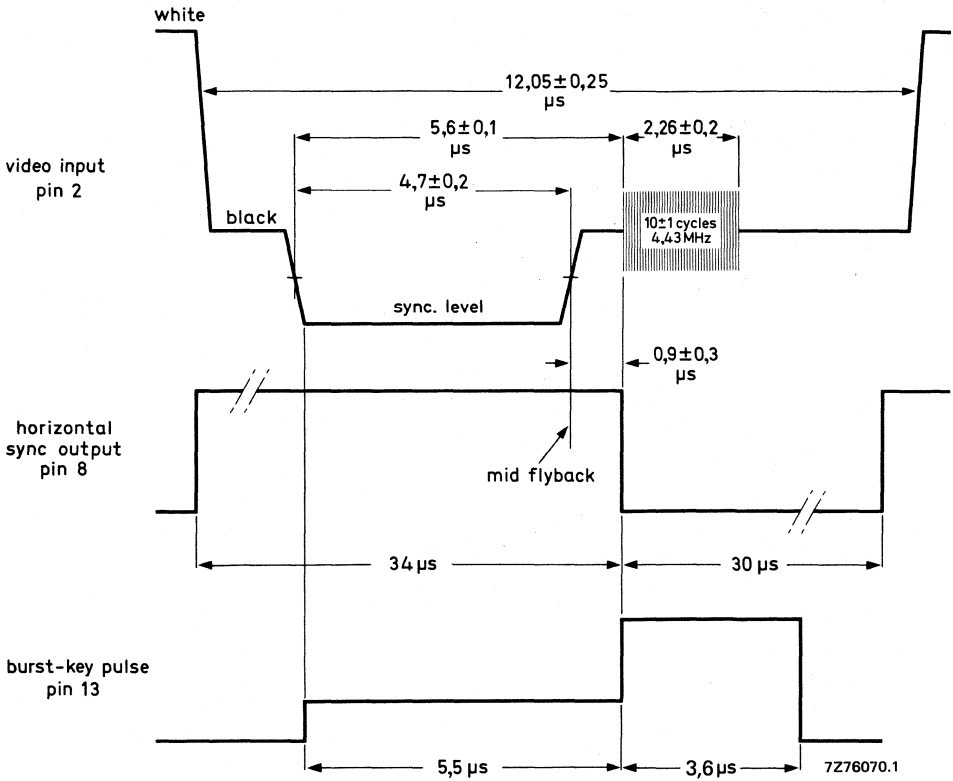

Fig. 2 Relationship between the video input signal to the TDA2571A and the horizontal sync and burst-key pulse output.
** See waveforms Fig. 2.
This pulse is composed of two parts. The lower part has an amplitude of 3 V peak-to-peak and a width of $9,1 \mu\text{s}$ (for phase relation see Fig. 2). The upper part has a total amplitude in excess of 10 V peak-to-peak and a width of $3,6 \mu\text{s}$. The leading edge of this pulse has a delay of $0,9 \mu\text{s}$ with respect to the falling edge of the sync pulse at the input (pin 2).